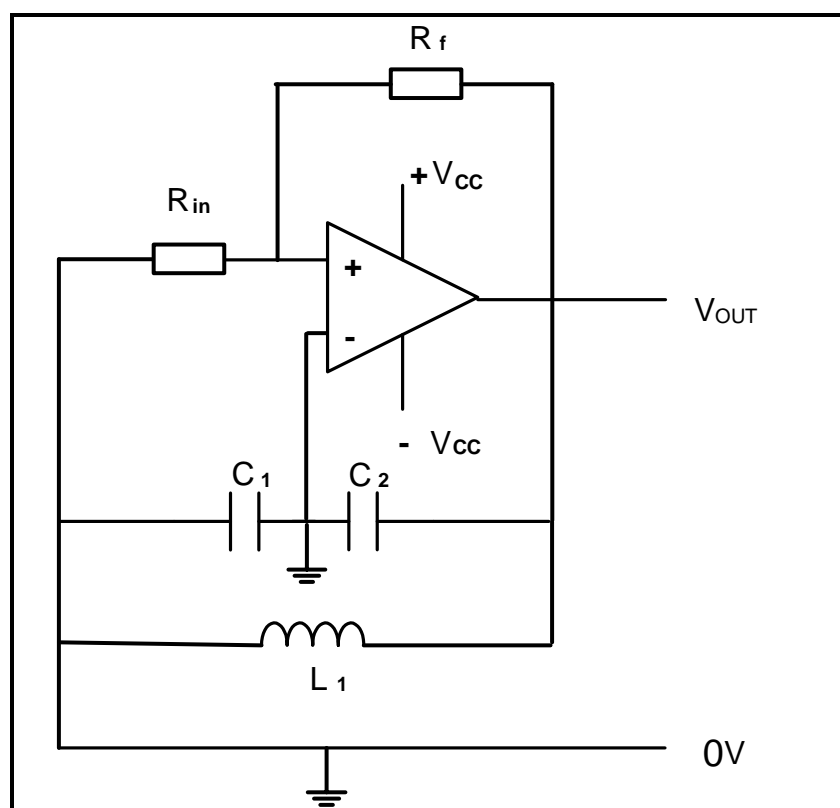

FIGURE 7.10: COLPITTS OSCILLATOR
- 7.10 FIGURE 7.10 below shows a Colpitts oscillator circuit. Calculate the oscillation frequency of an operational Colpitts oscillator when an inductor of 2,6 H is connected in parallel with a series-connected combination of a 30 nF and 60 nF capacitor.